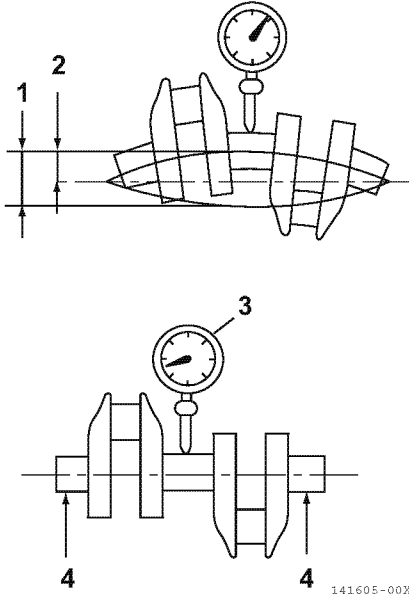

Figure 6-83
1. Place the crankshaft end journals (4, **Figure 6-83**) on V-blocks.
2. Place a dial indicator (3, **Figure 6-83**) on a center main bearing surface.